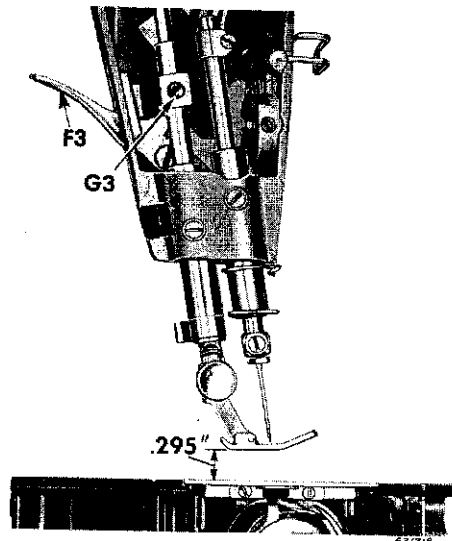

Fig. 5. Adjusting Presser Foot Height
1. Raise presser bar lifter F3, Fig. 5
2. Loosen set screw G3, Fig. 5 behind face plate
3. Move presser bar up or down, as required, until the bottom of the presser foot is .295" above the top surface of the throat plate, as shown in Fig. 5
4. Tighten the set screw G3, Fig. 5